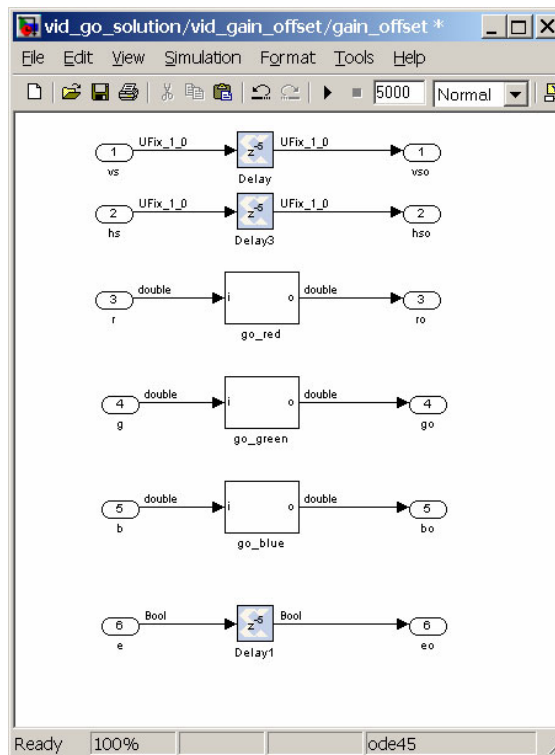

Figure 6-7: Design Saved as vid_go.mdl
11. Set the delays for `hsync`, `vsync`, and `pixel_enable` in the `gain_offset` subsystem to match the latency of the `gain_offset` blocks. See Figure 6-7.